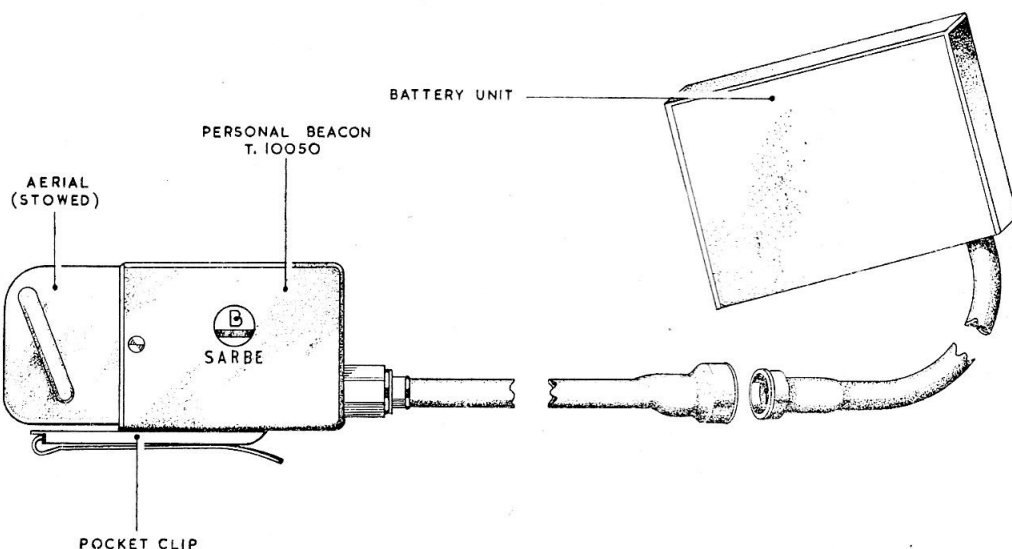

Fig. 3. Transmitter, Type T.10050 (S.A.R.B.E.)
4. ◀ The life jacket was originally designed to accommodate S.A.R.B.E. Mk. 1, illustrated in fig. 3, but a later requirement calls for the use of S.A.R.B.E. Mk. 2, in the first instance as an alternative to Mk 1, but later as a standard item. S.A.R.B.E. Mk 2 has a battery which is 1 in smaller in depth than that of the Mk 1, and this necessitates the packing out of the stowage pocket as described in para. 16. ▶